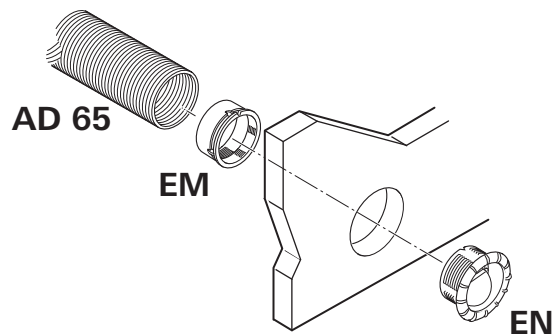

Fig. 22
1. Insert an **EN** end outlet into the drill hole (Fig. 22).